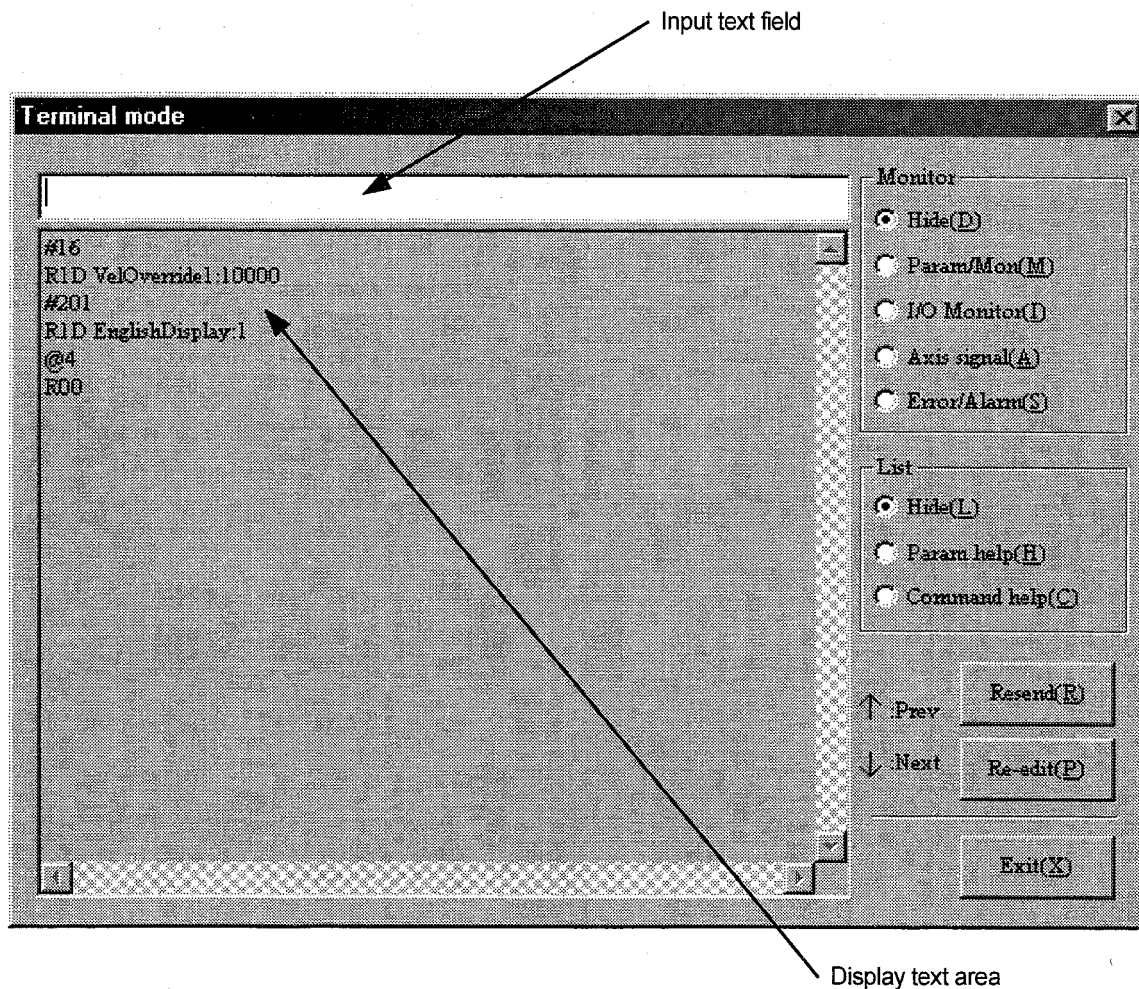

Figure 7.9 "Terminal" dialog box
Click "*Terminal (T)*" under "MainMenu" to display the "Terminal" dialog box (see Figure 7.9).